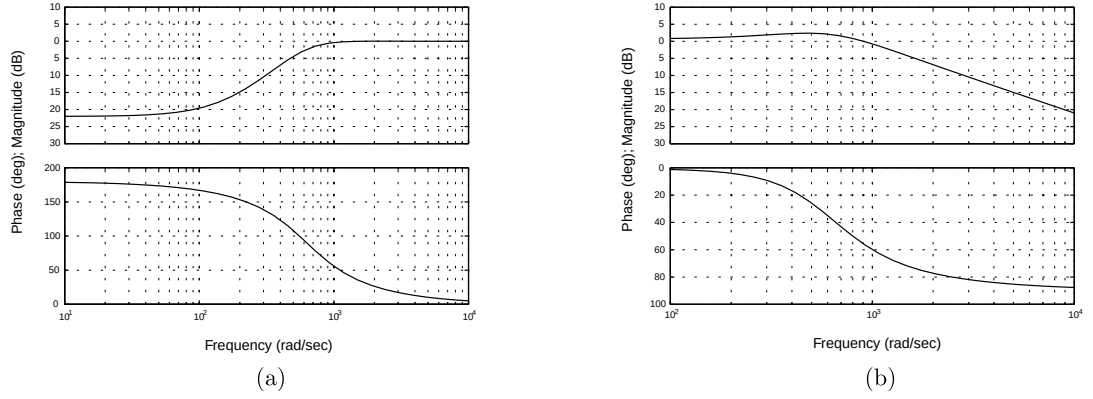

Figure 2: Magnitude and phase plots (a) Sensitivity transfer function. (b) Closed loop transfer function.
range and 0 in the high frequency range. The sensitivity transfer function bode plot is shown in Figure 2(a).
- (iv) **Closed-loop transfer function:** The closed loop transfer function has 2 poles and 1 zero. The magnitude plot is constant in the low frequency range and decreases at -20 dB/decade in the high frequency range. The phase on the other hand is 0° in the low frequency range and -90 in the high frequency range. The closed-loop transfer function bode plot is shown in Figure 2(b).